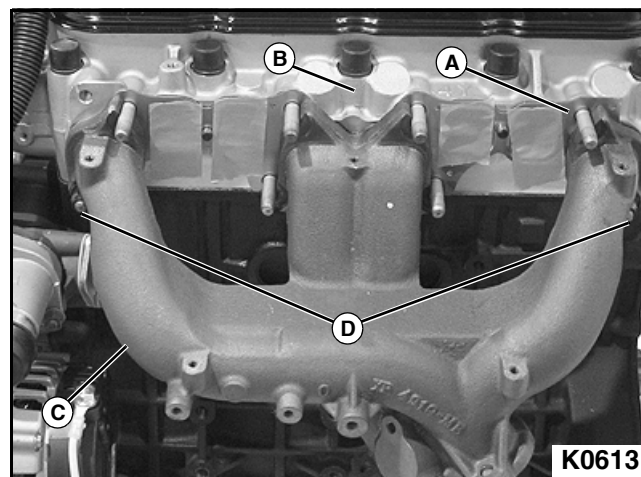

Figure 3-78
1. Install new intake/exhaust manifold gasket (A) to cylinder head (B). **See Figure 3-78.**
2. Install exhaust manifold (C) to cylinder head with two flange nuts (D).